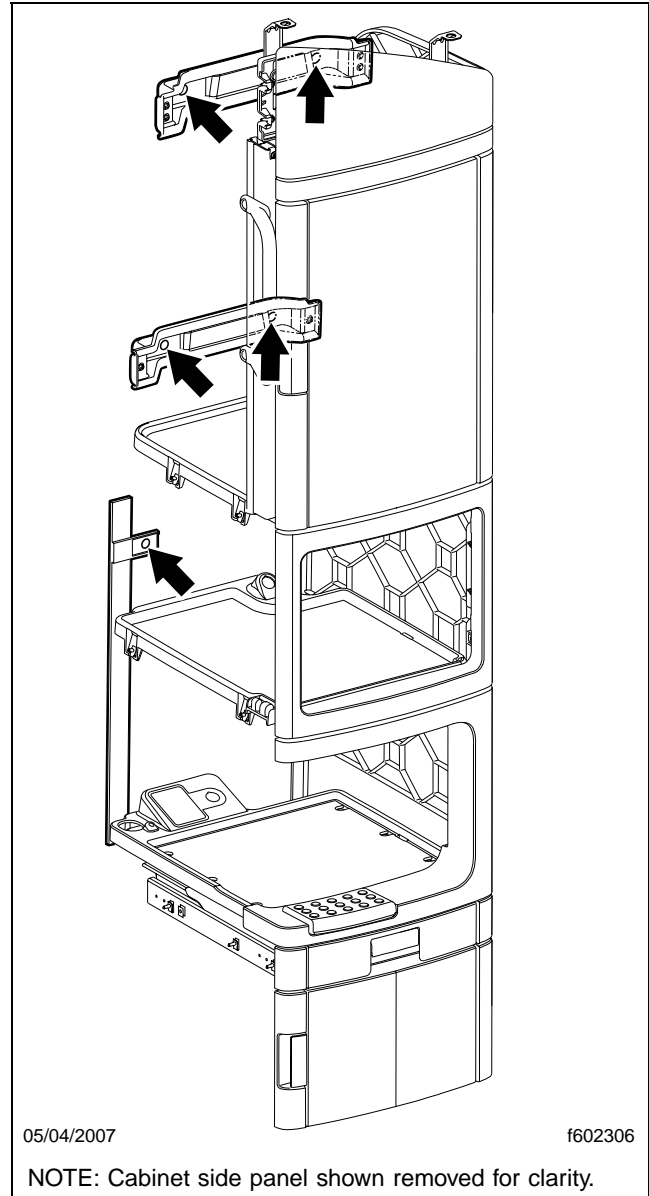

Fig. 20, Cabinet-to-Sleeper Wall Fasteners Inside Cabinet
14. Inside the cabinet, remove the screws and washers that attach the cabinet to the sleeper wall. See **Fig. 20**.
2. Inside the cabinet, install the screws and washers that attach the cabinet to the sleeper wall. See **Fig. 20**.